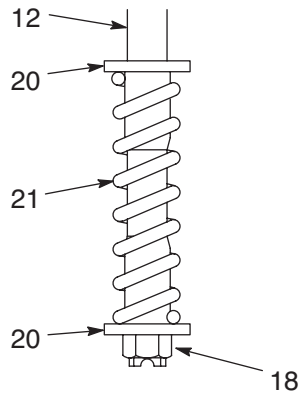

FIG. 9
8. Visually inspect the spring (21) if there is wear or damage, proceed with this step. Remove the nut (18), spring (21), and retainers (20) from the trip rod
(12). Reassemble with a retainer (20) on each end of the new spring (21). You must thread the nut onto the rod until it runs out of thread, so that it bottoms out on the shoulder of the rod. (FIG. 9)